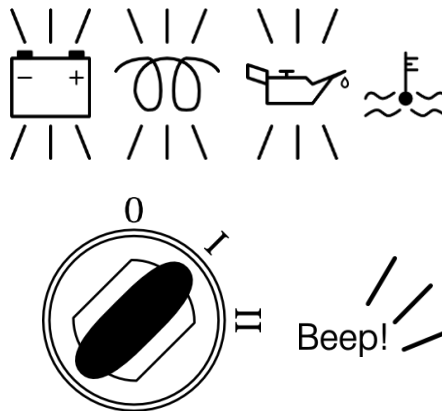

Figure 12 - Situation of the panel with engine off, key to position I.
1. Start the engine, turning the key to position I for some seconds (Figure 12 - Situation of the panel with engine off, key to position I).